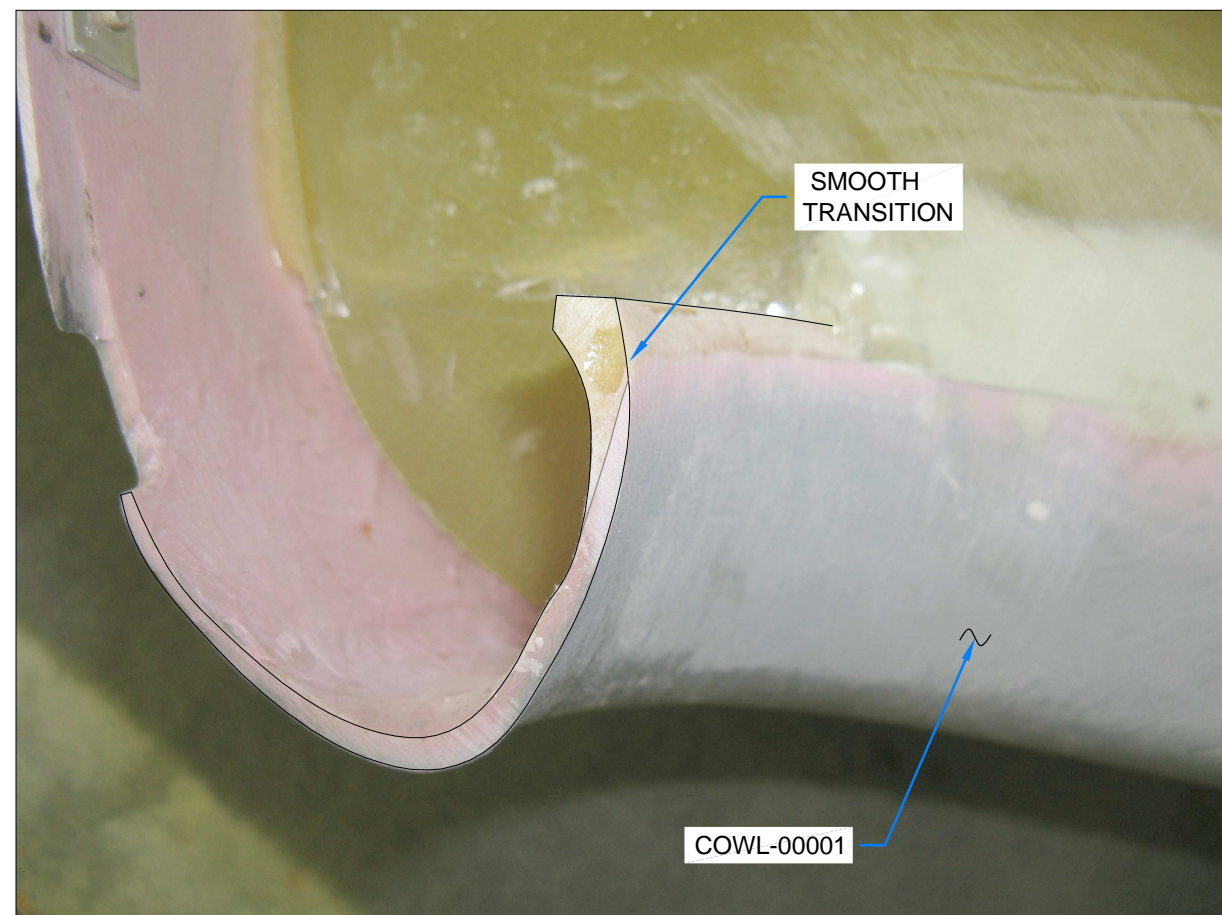

FIGURE 1: GRIND/SAND TOP COWL
Step 1: Grind/sand away the COWL-00001 Top Cowl and epoxy/flox at the outboard corners to create smooth transitions (i.e. rounded surfaces) that match the curvature of the COWL-00002 Bottom Cowl. See Figure 1.